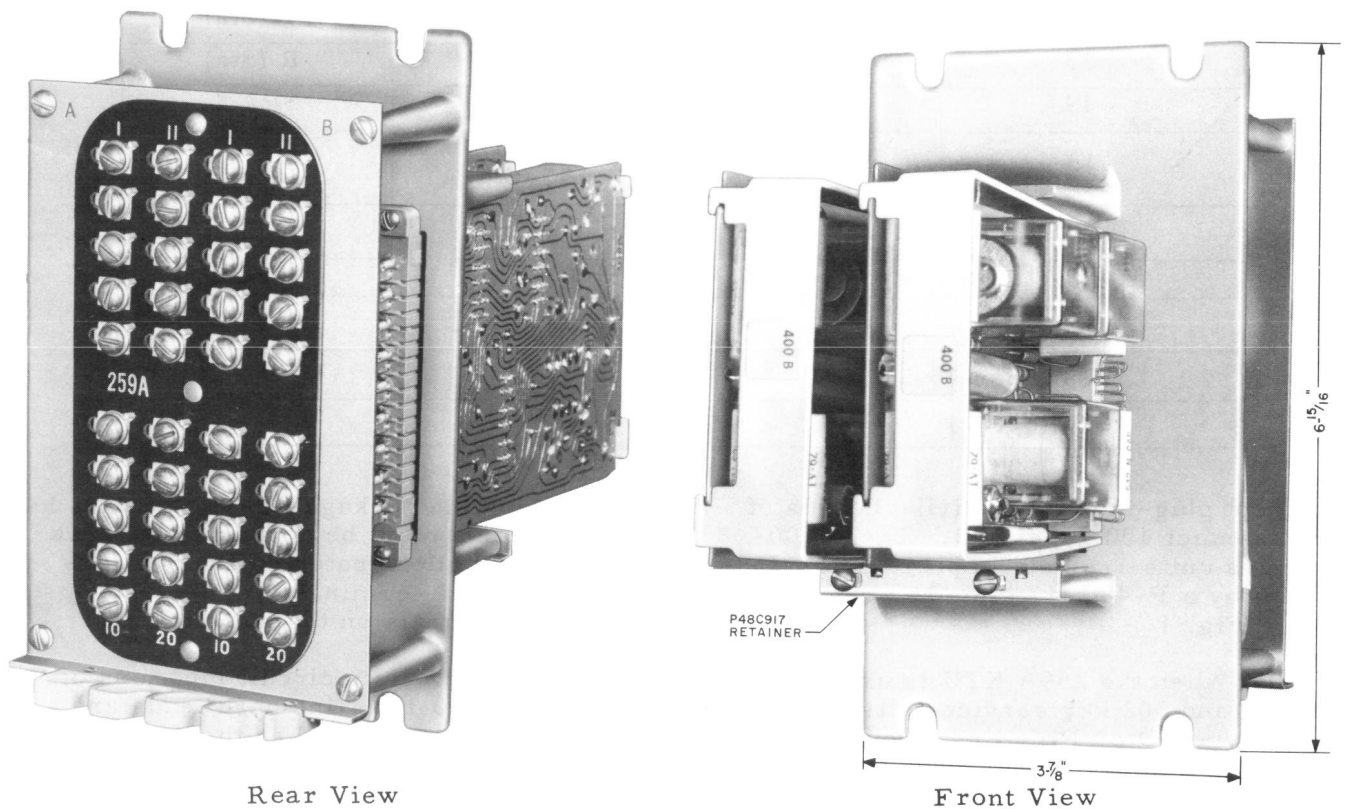

Fig. 1 - 259A Key Telephone Unit Equipped with 400-Type KTU
2.03 The 40-point screw terminal field is divided into two areas of 20 terminals each, marked A and B. The first 18 screw terminals in each area are wired to corresponding contacts of respective A or B connectors. Four unwired terminals on the KTU may be used for miscellaneous purposes as needed. Fig. 1 shows front and rear views of the 259A KTU.
accept plug-in printed wiring boards of 18-contact 400-type KTU. These 400-series units are held in place in the 259A KTU by a P-48C917 slide bar retainer. (See Fig. 1.)